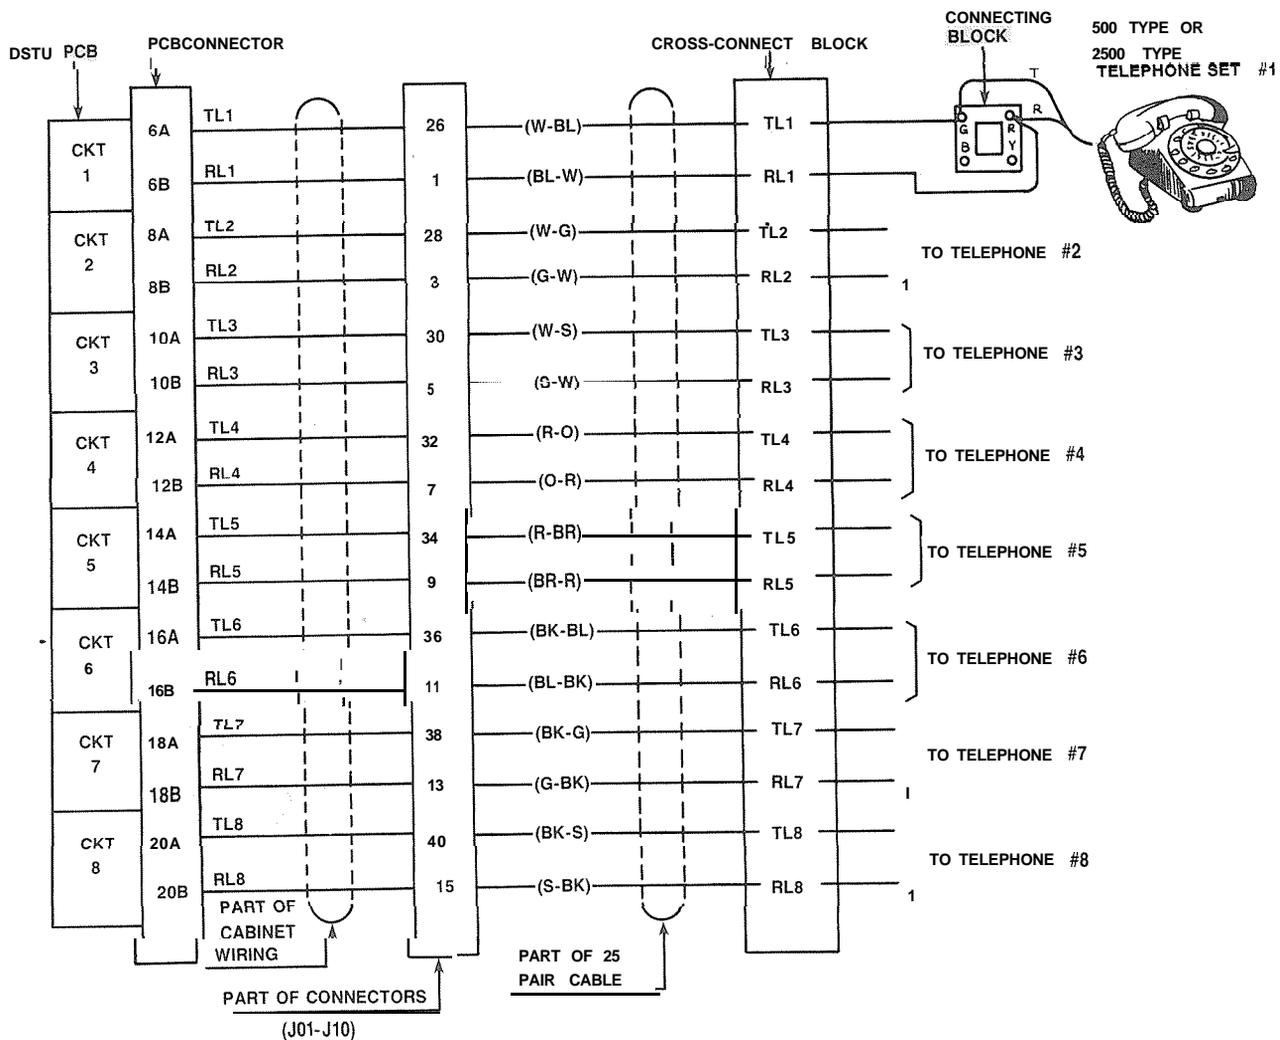

FIGURE 26—STANDARD TELEPHONE CONNECTION
08.13 Standard telephone connection details are shown in Figure 26.